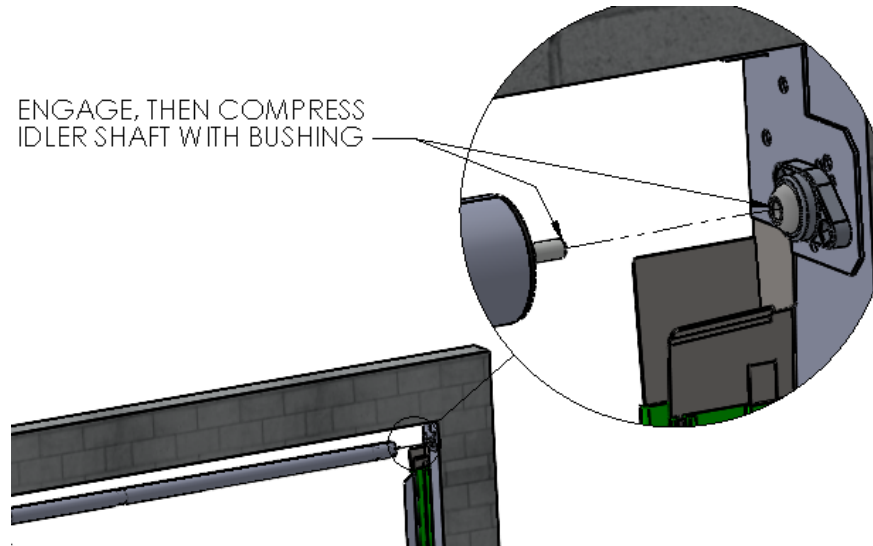

Figure 6 INSTALL R.H. SIDE OF HEADER ASSEMBLY
1. Using two (2) people, and two ladders at minimum, raise the Header Assembly, and insert the Idler Shaft into the installed Idler Bearing Assembly at upper RIGHT. (Figure 6 INSTALL R.H. SIDE OF HEADER ASSEMBLY)